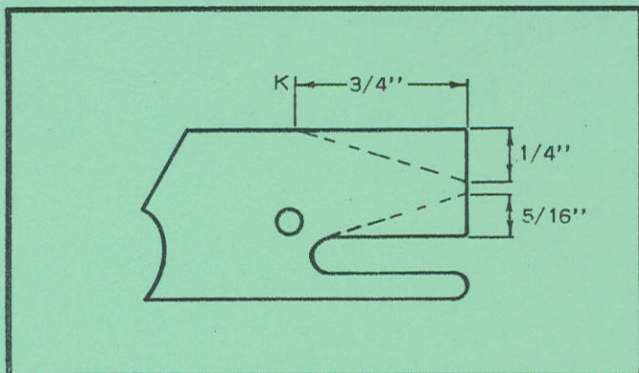

Figure 2
- (b) Scribe a line from the back of the housing mouth to a point $5/16$ " above the front upper lip of housing mouth, see Figure 2.
- (c) Scribe a line from a point $3/4$ " back on the top of housing to the front of the housing at a point $1/4$ " down from the top, see Figure 2.